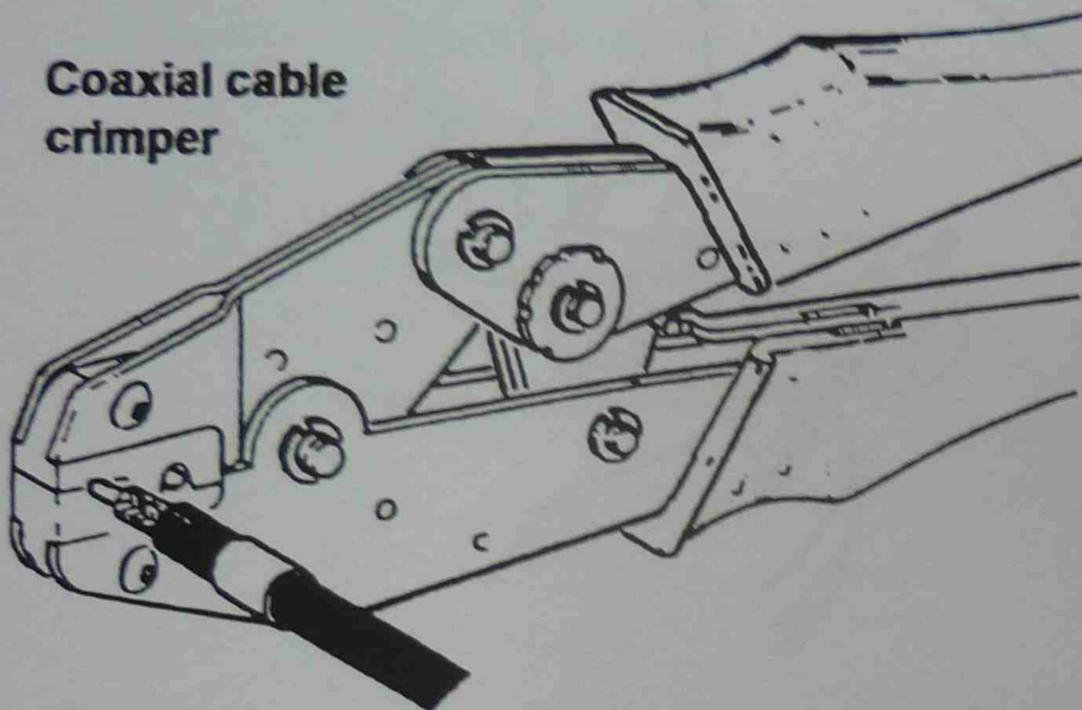

Figure 76 Crimping centre pin
3. Crimp the contact in place using a suitable tool as shown in Figure 76.